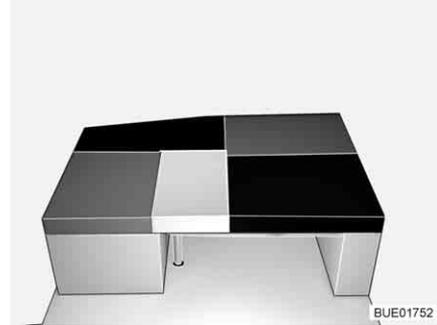

Fig. 118 After conversion
- Place the back cushion of the lateral seat/lateral bench on the table (between the seat cushion of the lateral seat/lateral bench and the additional cushion, see Fig. 118).